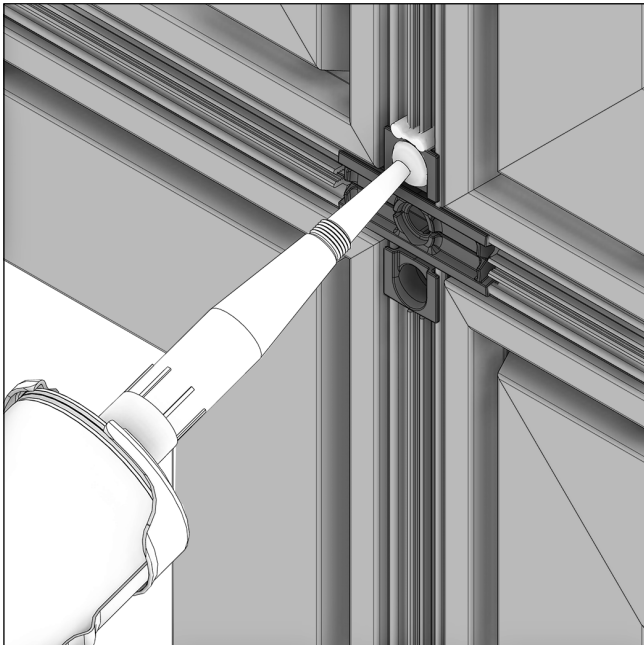
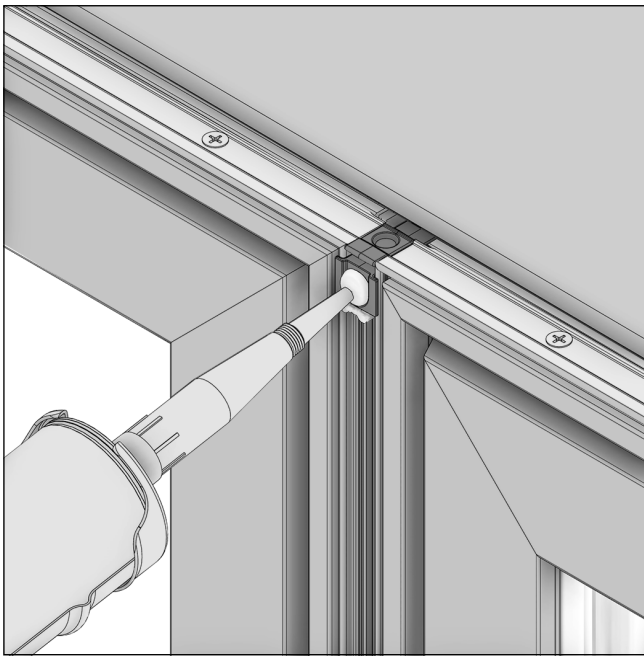

Figure 82 Multi-high multi-wide assemblies
Figure 85 Multi-wide assemblies
17. Inject plugs until sealant is seen at locations shown in Figure 82 - Figure 85.